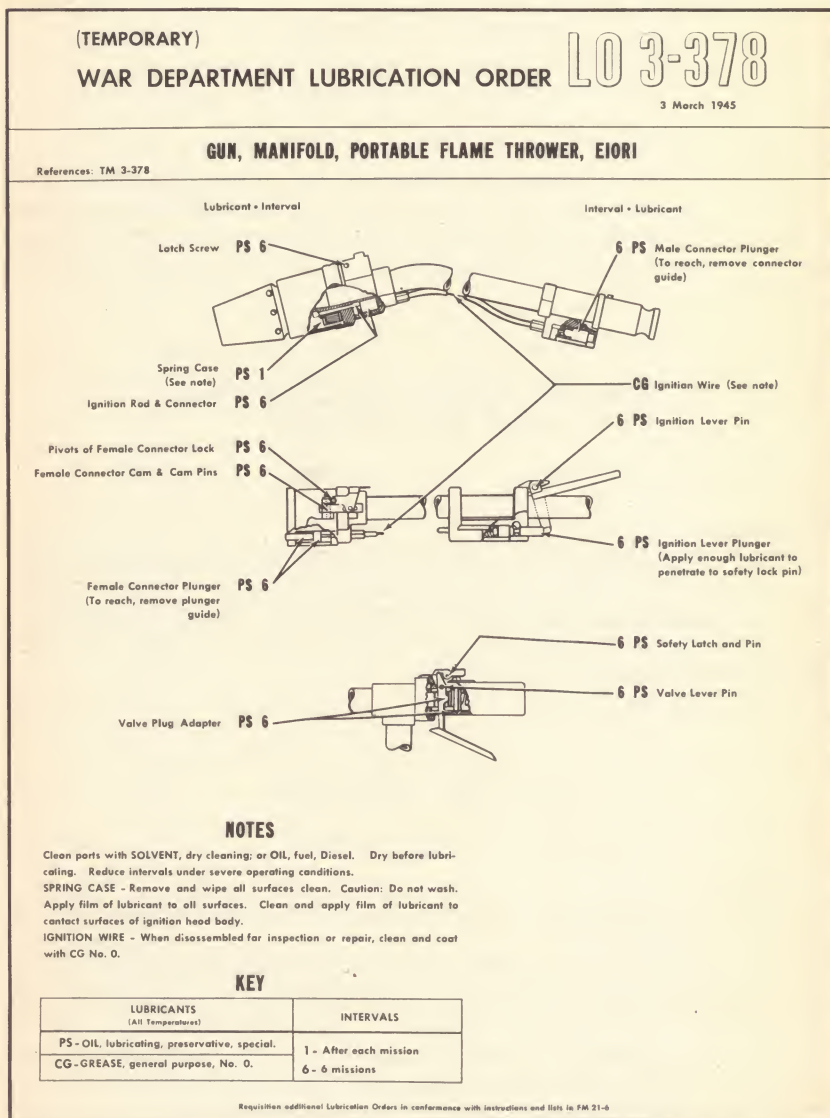

Fig. 30. Tentative Lubrication Order.
a. WDLO 3-378 (fig. 30, page 27) prescribes first and second echelon lubrication maintenance.